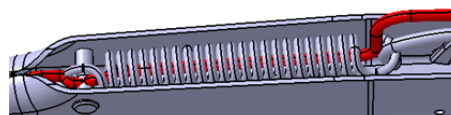

FIGURE 9
10. Route the rubber tube through the wiper arm spring (FIGURE 9).